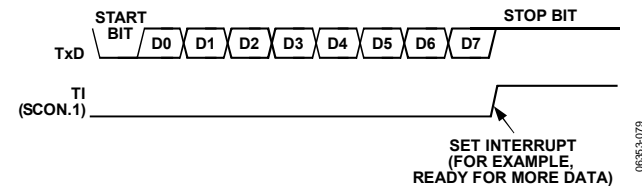

Figure 90. 8-Bit Variable Baud Rate
Transmission is initiated by a write to the Serial Port Buffer SFR (SBUF, 0x99) Next, a stop bit (1) is loaded into the ninth bit position of the transmit shift register. The data is output bit-by-bit until the stop bit appears on TxD and the transmit interrupt flag (TI) is automatically set as shown in Figure 90.